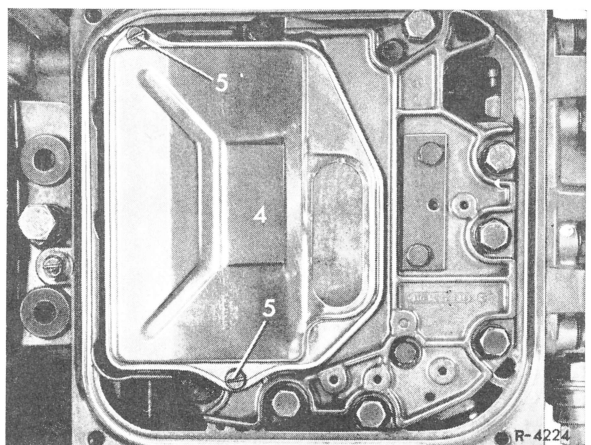

Fig. 79
**104** Mount oil filter (4), screw-in fastening bolts (5) and tighten to 4 Nm (0.4 kpm) (Fig. 79).